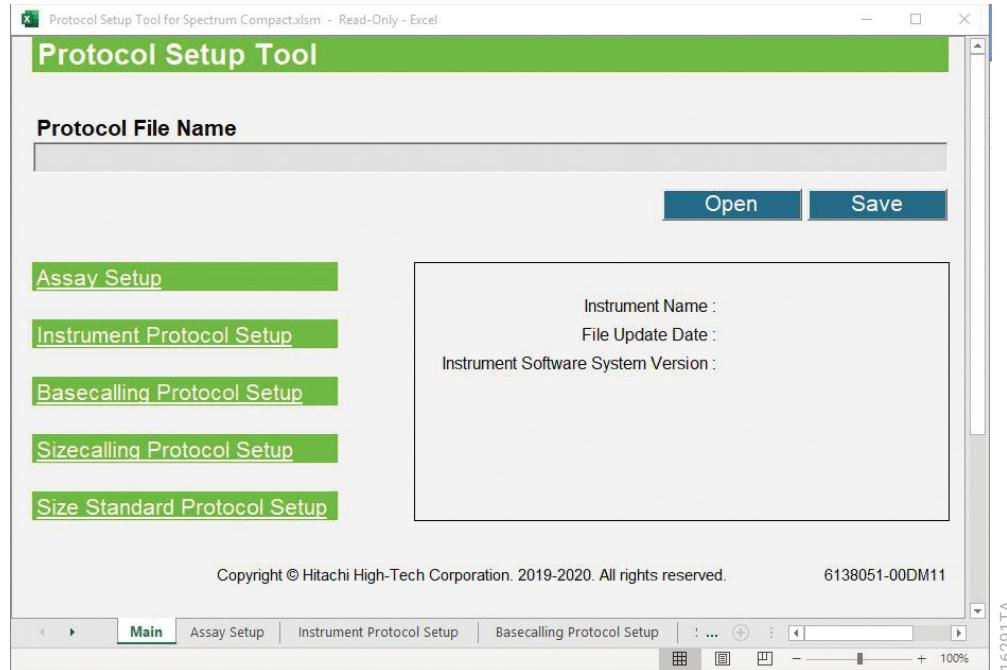

Figure 224. Main worksheet of the Protocol Setup Tool for Spectrum Compact.
1. Open the 'Protocol Setup Tool for Spectrum Compact.xlsx' Excel® macro-enabled workbook. The 'Main' worksheet will be displayed (Figure 224).
5. Information on individual protocols or assays can be accessed by either selecting **Setup** on the ‘Main’ worksheet or selecting the tab at the bottom for the appropriate setup worksheet (Figure 224).
1. Open the ‘Instrument Protocol Setup’ worksheet by either selecting **Setup** on the Main worksheet or selecting the tab at the bottom for the appropriate setup worksheet (Figure 224).
7. Select the 'Main' worksheet tab followed by **Save** (Figure 224). A 'Save As' browse window appears. Browse to the location (e.g., a USB drive) where you wish to save the new protocol .xml file and save to a folder named Protocols within that location (if folder does not already exist, create a new folder with that name).
1. Open the 'Basecalling Protocol Setup' worksheet by either selecting **Setup** on the Main worksheet or selecting the tab at the bottom for the appropriate setup worksheet (Figure 224).